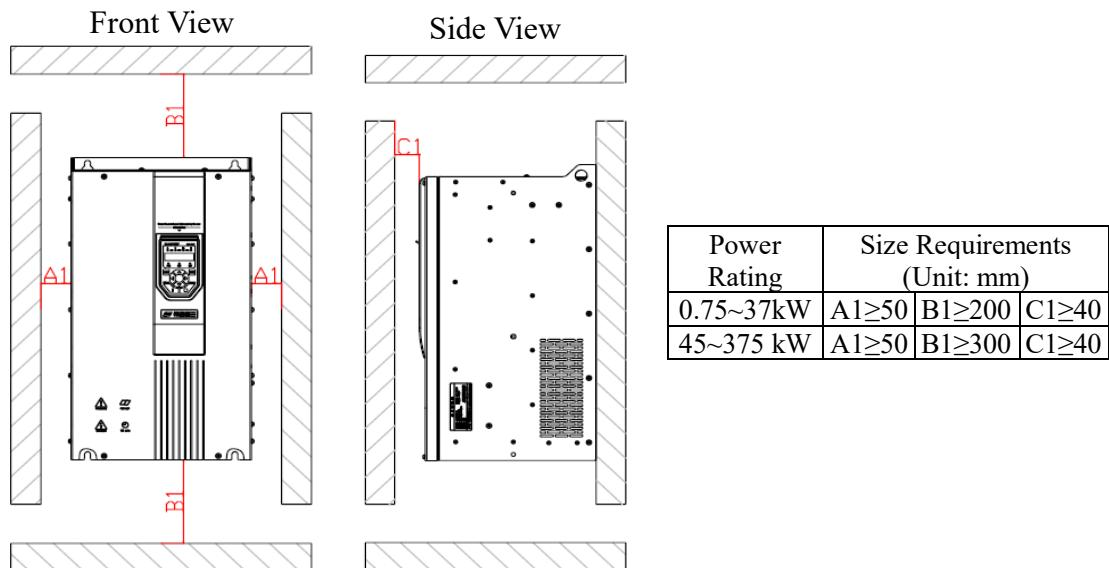

Fig. 3-2 Installation Spacing for a Single Set
- Fig. 3-2 shows the installation space requirements. It is required to ensure that the frequency converter has sufficient space for heat dissipation. When reserving space, it is required to consider the heat dissipation conditions of other components in the cabinet;